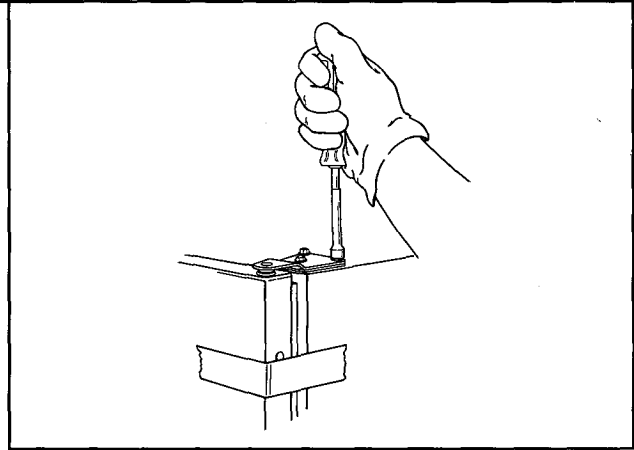

Figure 11
- a. Remove three 5/16" hex head screws with a 5/16" hex nut driver. See Figure 11.
**⚠ CAUTION:** To Avoid Risk of Personal Injury or Property Damage have (2) two people help remove each door, one person to hold door while the other removes strapping tape.